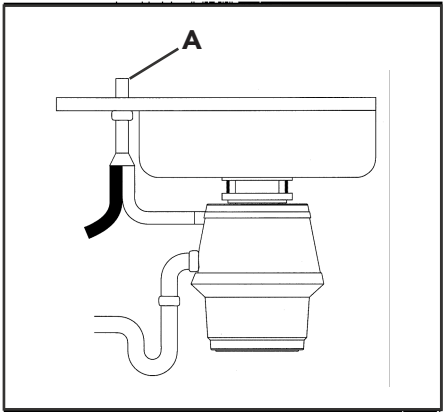

Figure12-1
In some areas, codes require that the dishwasher be connected to the disposer through an air gap (A). (See Figure 12-1) (An air gap prevents waste water backflow and/or dishwasher contamination.) Ensure knockout plug is removed (see **Instruction 8**). Plumbing connections must comply with local plumbing codes.